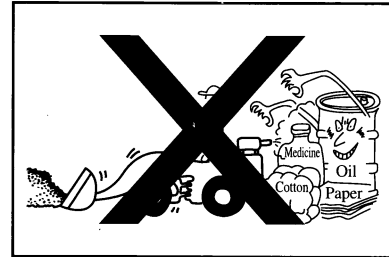

Figure1-81
- If the air released from the muffler is ejected to combustible material or the exhauster is near to them, fire will be easily lighted. So when you are near the combustible or dangerous material such as oil, cotton, paper, withered grass or chemical substance, special attentions must be paid. (Figure 1-81)